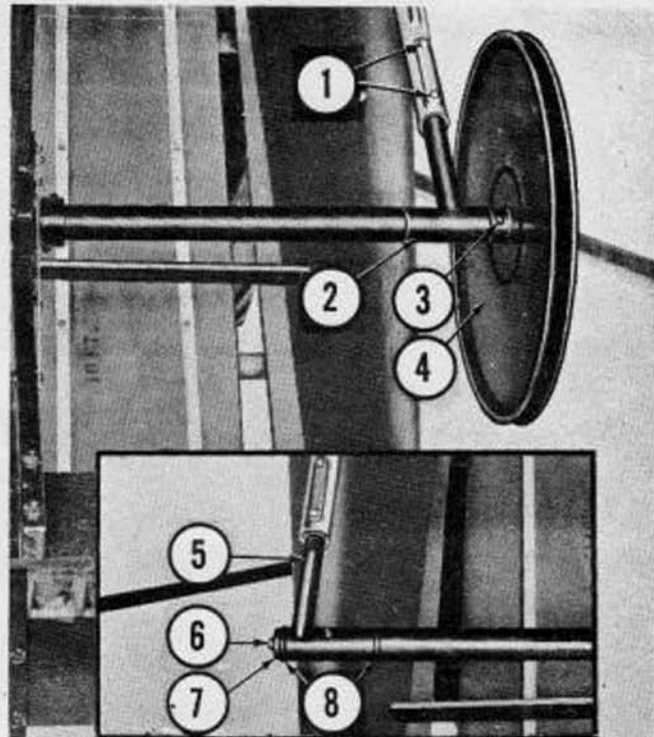

Figure 19
- e. Position the reel "T" (2), Figure 19, on the left end of the reel axle as shown, then position a key in the shaft keyway and install the reel sheave (4). Secure the sheave by means of the Allen screw (3).
- f. Install the reel "L" (5) on the right end of the reel axle with two spacer washers (8), Figure 19, placed as shown. Secure the "L" with a flat washer (7), lockwasher and cap screw (6).
- g. Position the reel "T" and "L" in the lift arms as shown and adjust until the reel bats are parallel with the cutter bar. Secure each end with the two set screws shown at (1), Figure 19.